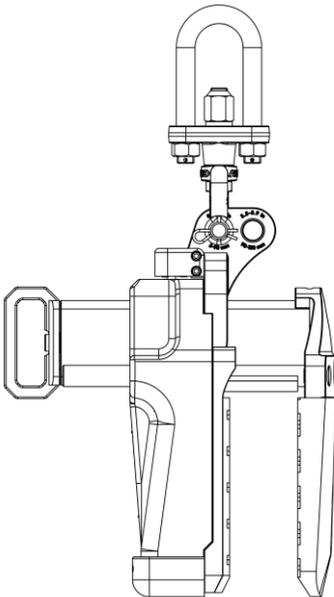

Figure 1.1: Position 1
- + Hook the Swivel Shackle at position 1 when the slab thickness is from $3\frac{1}{16}$ " (5 mm) to $3\frac{9}{16}$ " (90 mm) (Figure 1.1).